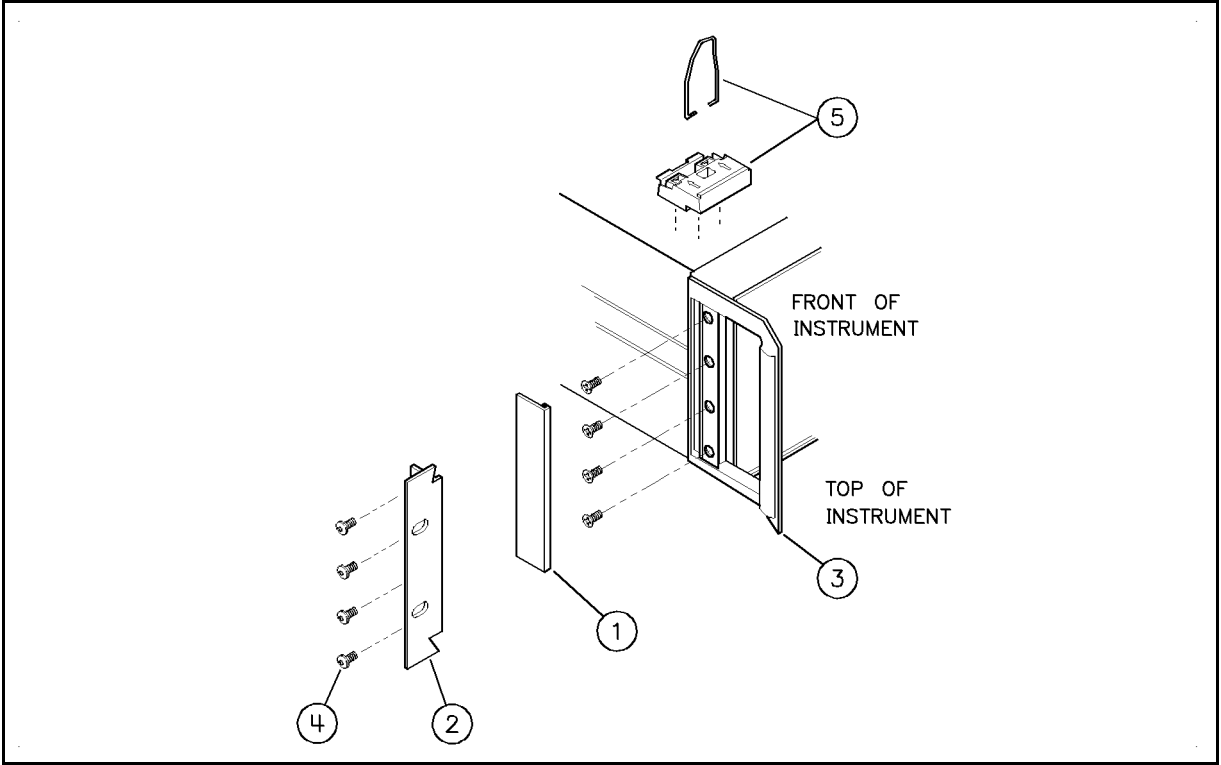

Figure 2-4. Rack Mounting the Analyzer
1. Refer to Figure 2-4. Contact your nearest sales and service office. See Table 1-5 for a list of Agilent Offices.
2. Remove each front handle trim ①:
3. Remove four screws ④ and one front handle assembly ③ per side.
4. Attach one rack mount flange ② with four panhead screws ④ per side.
5. Remove the feet and tilt stands ⑤.
1. Refer to Figure 2-4.
4. Attach one rack mount flange ② and one front handle assembly ③ with four panhead screws ④ per side.